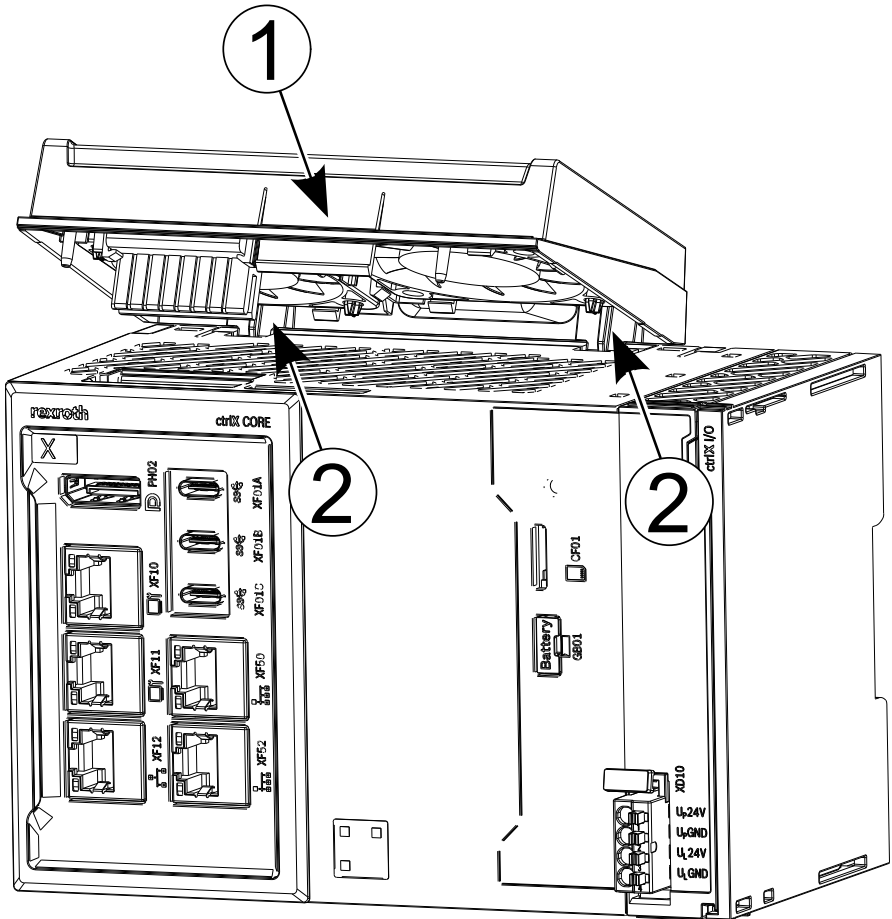

Fig. 11: Fan mounting
1. ➔ Release the locking hook of the fan at the front, see ① in Fig. 11.